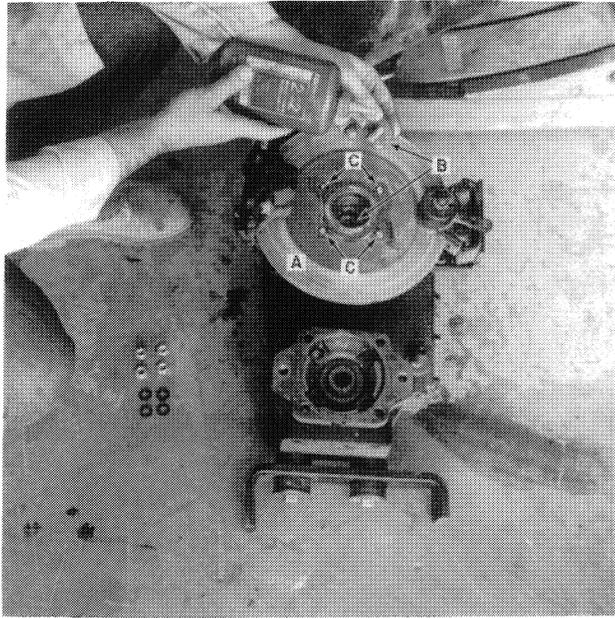

FIGURE 1-9
7. Remove the Grade 8 ½" x 1½" cap screw, B, in the gearbox output shaft, Figure 1-9, so that the drive flange can be moved rearward. Replace the disc mounting bolts.